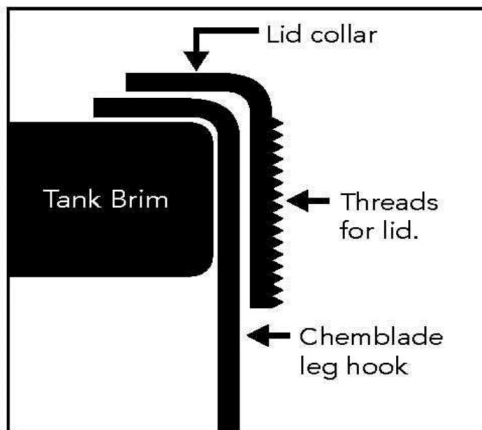

Fig. 3
6. Set lid collar back into opening and make sure of proper fitment as seen in (Fig. 3). Collar must "pop" inside of Chem-Blade legs and tank brim tightly but not to where collar bulges upward excessively.